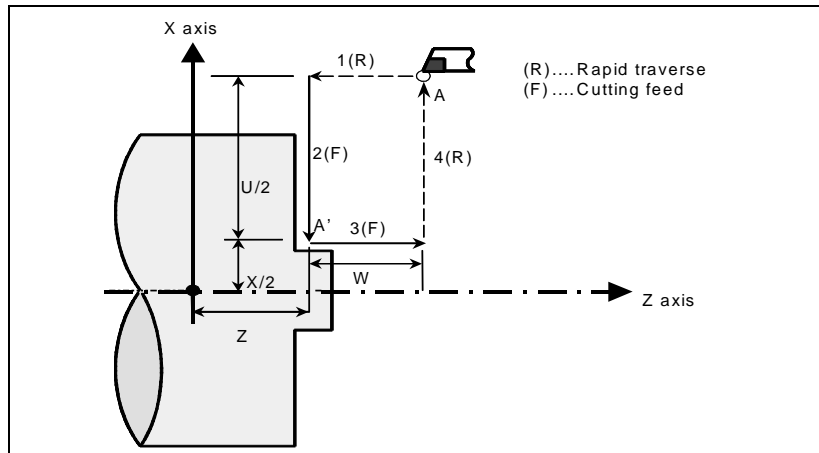

Fig. 6.3.3.1 (a) Face cutting cycle
- X\_,Z\_ : Coordinates of the cutting end point (point A' in the Fig. 6.3.3.1 (a)) in the direction of the end face
U\_,W\_ : Travel distance to the cutting end point (point A' in the Fig. 6.3.3.1 (a)) in the direction of the end face